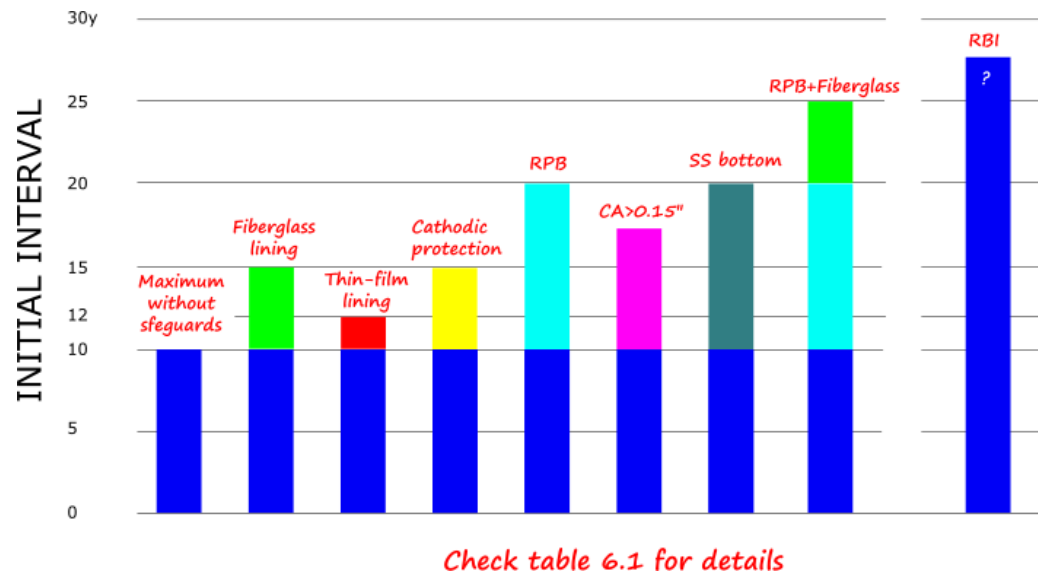

FIGURE 1 INITIAL INSPECTION INTERVALS IN TANKS (NOT STAINLESS STEEL TANKS)
**Internal inspection:** The interval from initial service date until the first internal inspection shall not exceed 10 years unless it has one or more of the leak prevention, detection, corrosion mitigation or containment safeguards listed in Table 6.1 of API 653. Subsequent inspection intervals can be determined using the measured tank bottom corrosion rate and the minimum remaining thickness in accordance with 4.4.5 of API 653. An RBI assessment or stress analysis can be used to establish the inspection interval from initial service, and also subsequent inspection intervals. (Check figure 1 for Initial inspection interval)